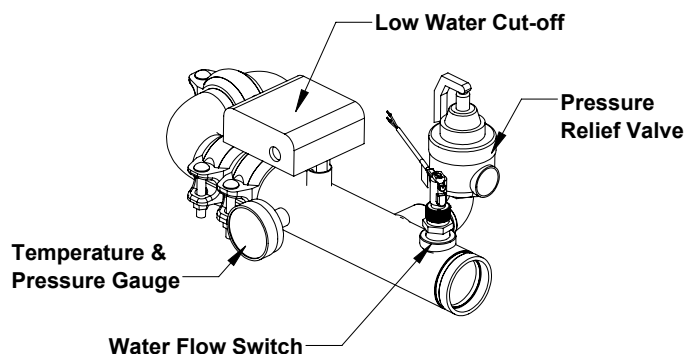

Figure 12: Factory Supplied Water Manifold
1. A pressure relief valve is included with every boiler. If the Relief valve is shipped loose, install it to the outlet manifold as shown in Figure 12.